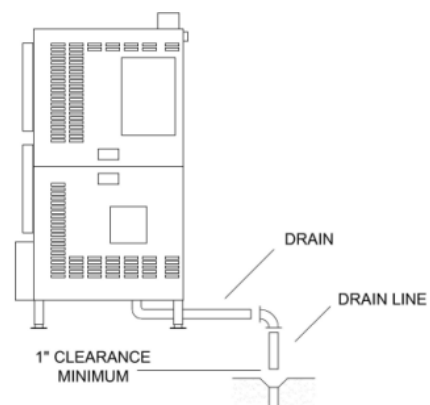

Figure 3-7
3. Free air venting requires a minimum 1" clearance between the end of the drain line and the top of the floor drain. See Figure 3-7.
11. Refer to Figure 3-7: Connect the drain to the appliance.